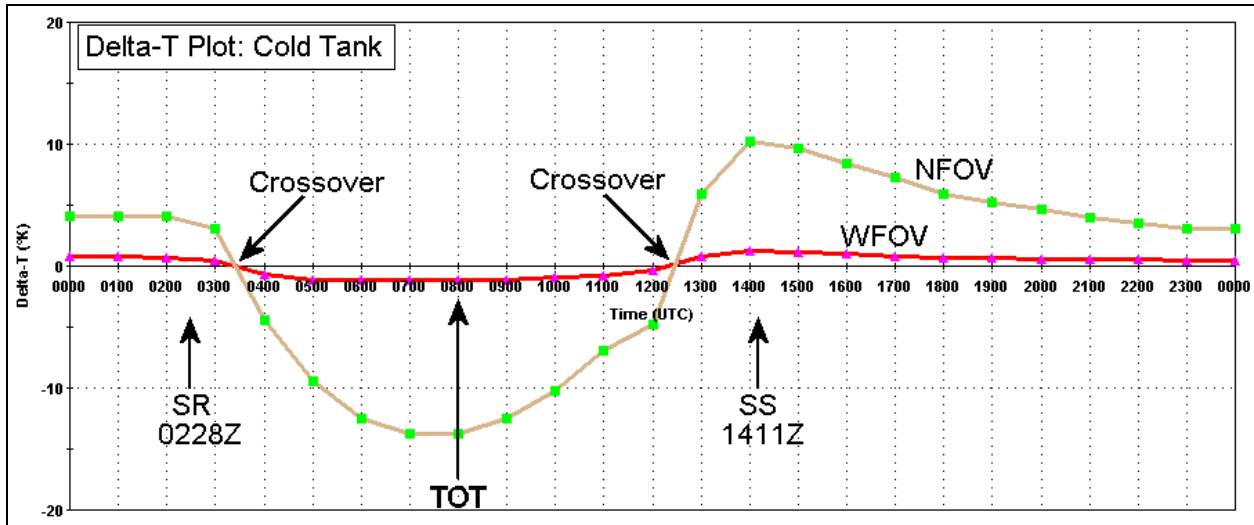

Figure 33 – TAWS Delta-T plot
- g. Delta-T plots (figure 33). These plots show the difference between the target temperature (whole target or hot/cold spot) and background temperature. Popular for showing periods of thermal crossover. Can also to be used to determine whether the target is warmer/colder than the background.